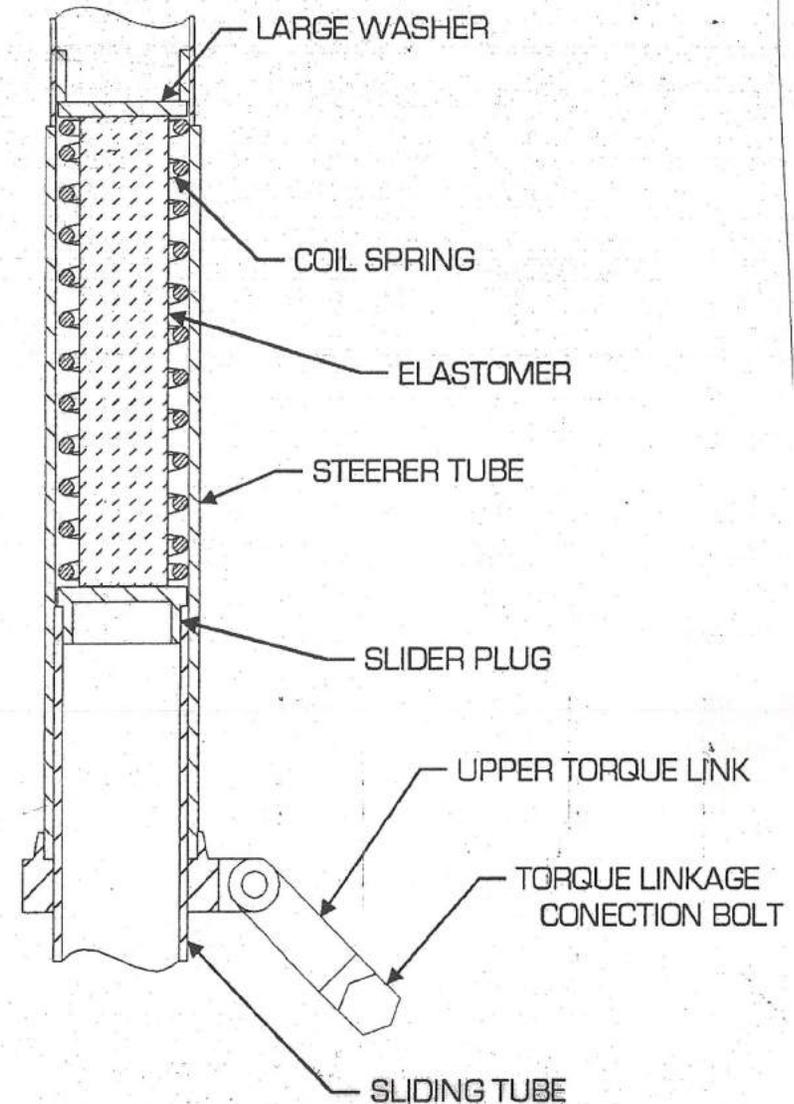

Fig. 5-3
(Reference Figure 5-3):
- D) The dynamic parts of the suspended fork consist of a coil spring, and an elastomer for damping. Eventually, the elastomer may wear out and require replacement. See Fig 5-3 for the location of the elastomer. To change the elastomer, follow steps A through D above.